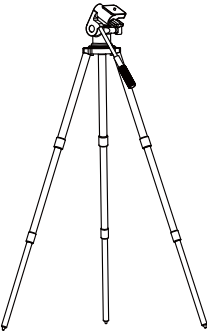

Fig 5
**With Tilt-head/Ball-head:** Take a standard photo tripod or video tripod with Tilt-head or Ball-head. Spread the legs and secure the tripod legs at the desired height to provide a stable support for your Star Adventurer as Fig 5.